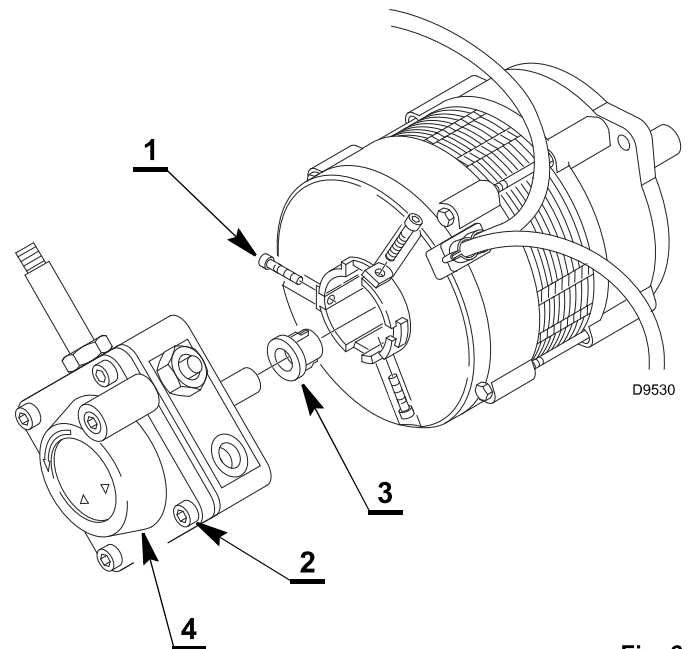

Fig. 6
- block the pump by uniformly tightening the 3 screws 1) (Fig. 6) - recommended tightening torque $3 \pm 0.3 \text{ Nm}$.
- loosen and remove the 4 fixing screws 2) (Fig. 6) of the cover 4) and check the condition of the fuel filter. If there is dirt on the inner surface of the pump body, cover or filter, then the fuel tank and relative piping are probably contaminated. Corrective action (cleaning) is therefore necessary